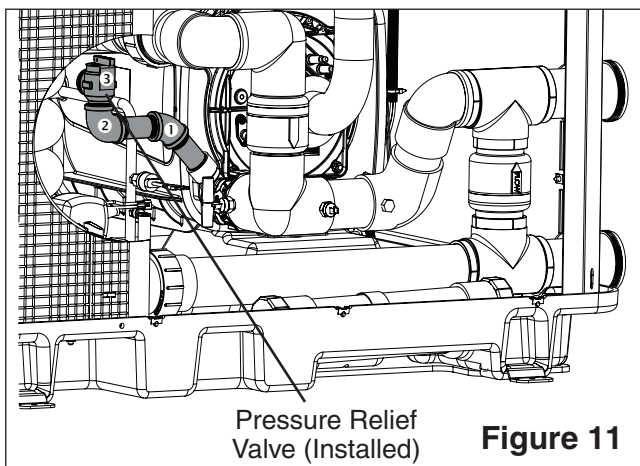

Figure 11
3. Thread the Schedule 40 brass pipe and 45-degree elbow [1], included in the PRV kit, into the lower gas engine manifold. The elbow should be oriented so that the elbow's female thread is horizontal. See **Figure 11**.
4. Thread the second Schedule 40 brass pipe and 90-degree elbow [2] into the 45-degree elbow [1]. Ensure that the open end of the 90-degree elbow is oriented vertically. See **Figure 11**.
5. Install the Pentair pressure relief valve (P/N 072138), included in the PRV kit, or an equivalent 50 PSI 3/4" ASME-Type IV relief valve [3] into the 90-degree elbow [1]. See **Figure 11**.